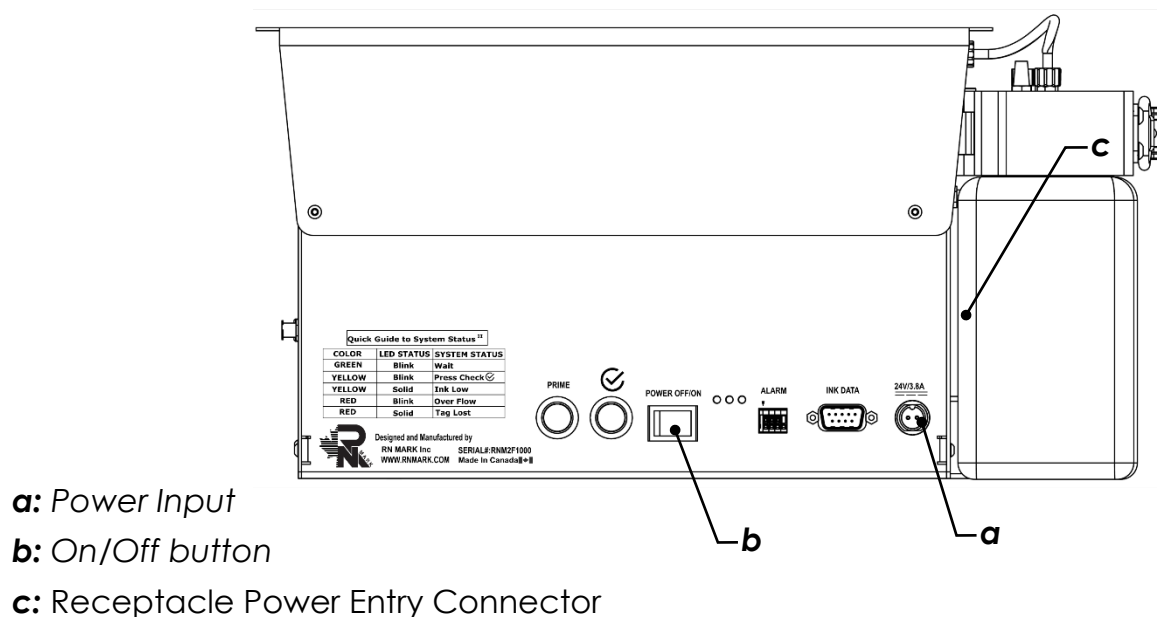

Figure 18
- Insert the male end of the power adapter cable supplied at the back of printer (refer to Figure 18).
- Toggle the two-position power switch to the “ON” position when printer operation is required (Refer to Figure 18).